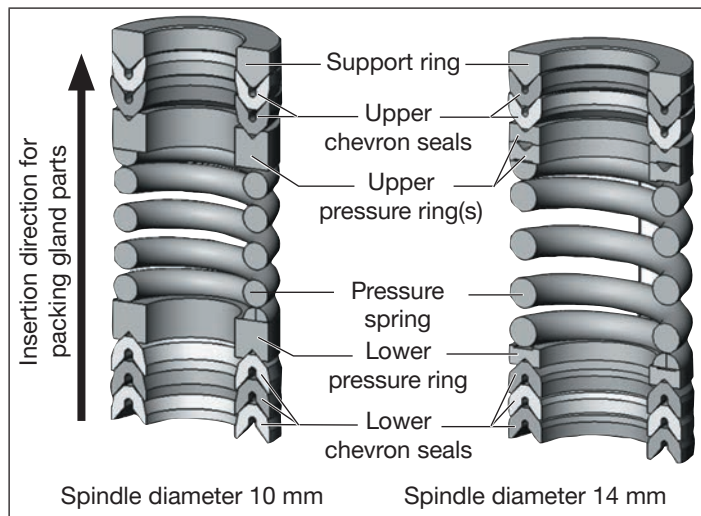
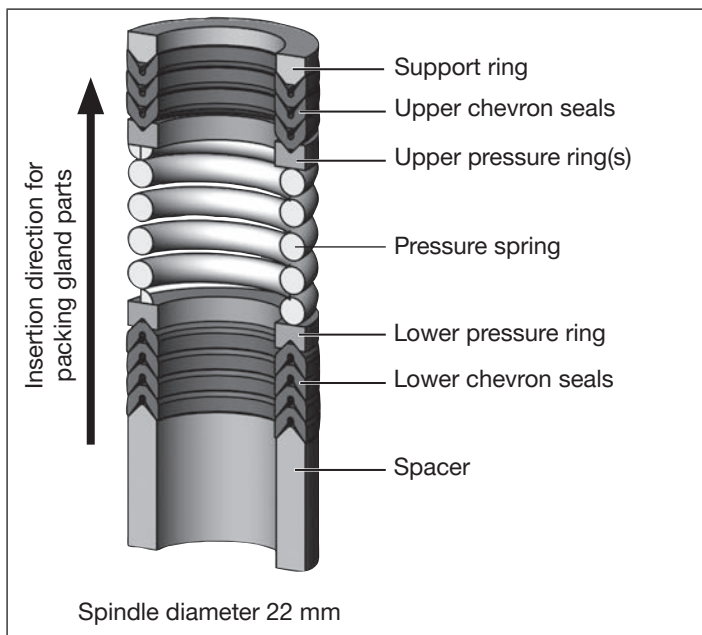

Fig. 34: Seal set for packing gland SP10 / SP14
Fig. 35: Seal set for packing gland SP22
- Connect the individual parts to the spindle in the specified direction and sequence (as illustrated in “Fig. 34” or “Fig. 35”).